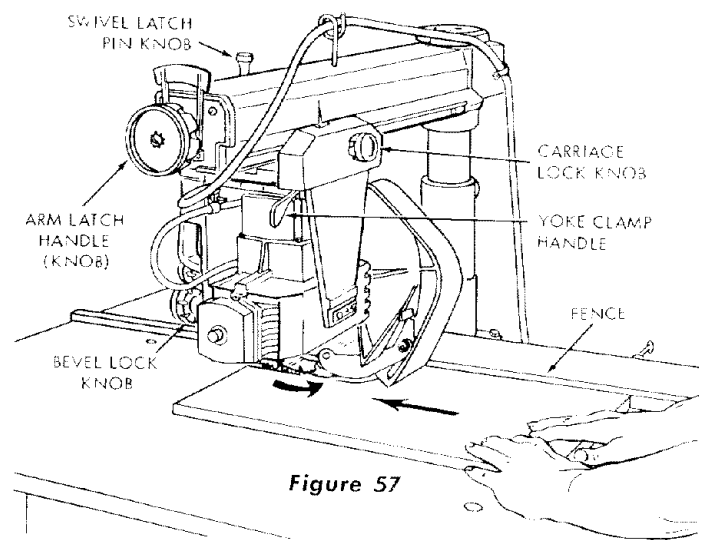

Figure 57
1. Ripping is the process of sawing the workpiece by feeding it into the saw blade when using the fence as a guide and as a positioning device to obtain the desired width of cut. (See figures 57 through 59.)
**In-Ripping** (See figure 57.) The radial arm and bevel are indexed at 0° and locked, but the yoke is turned 90-degrees in a clockwise direction (viewed from above) from the crosscut position. Thus, when standing in front of the saw, the blade would be rotating counterclockwise. After positioning the guard and anti-kickback mechanism the workpiece is fed from the right-hand side of the saw, as shown in figure 57. The "In-Rip" scale is on the right-hand side of radial arm.